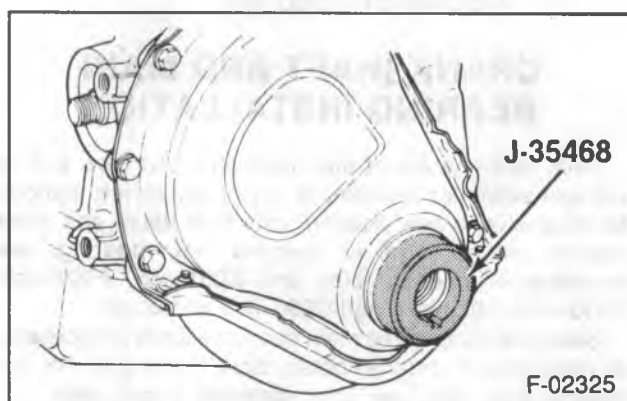

Figure 52—Front Cover Centering Tool
- Apply engine oil to the lips of the seal (158).
- 1. J-35468 to the seal (158). The tool is necessary to properly “center” the front seal on the crankshaft. If the seal is not centered, it may be damaged when the vibration damper is installed, or it may fail prematurely.
- 2. Gasket (166) to the block (115).
- 3. Timing gear cover (157), with the tool, to the block (115) (figure 52).
- 4. Bolts (164).
- Bolts (164) to 9.0 N·m (80 in. lbs.).